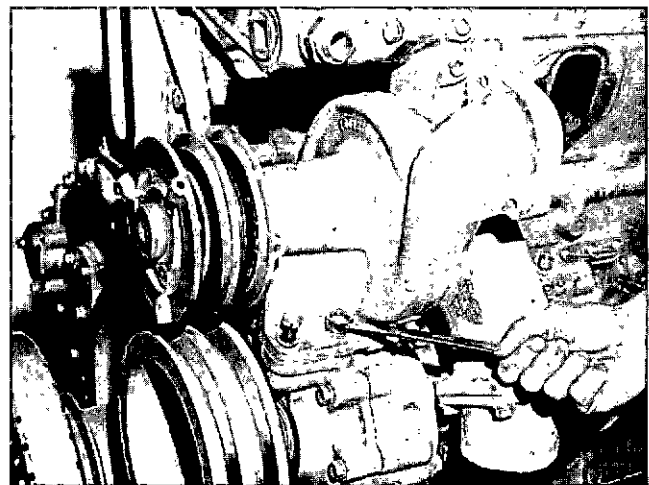

Fig. 0-18, V40051. Removing water pump mounting capscrews
4. Remove capscrews and lockwashers securing water pump and valve and injector timing pointer to gear case cover. Fig. 0-18.